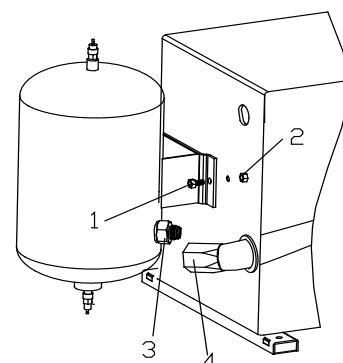

Fig 4
- 1) Demount the left cover, fix the body and the air storage tank with bolt(1) and screw cap(2);
- 2) Fix the metal hose and the connector, ensure no air leakage(**Fig 4**)